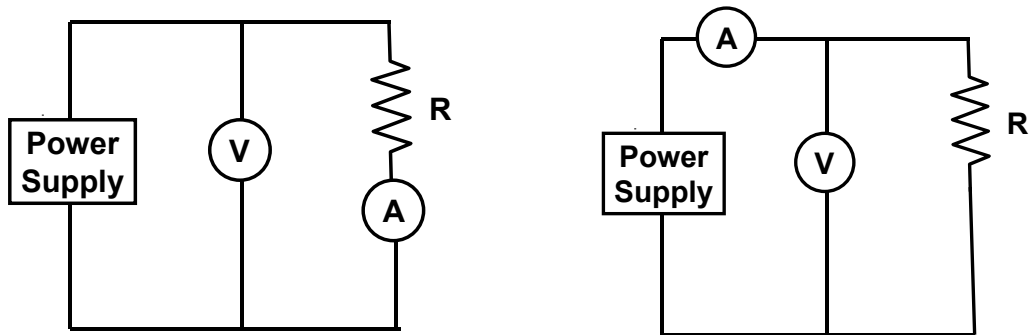

Figure 1
2) In the figure on the right the ammeter reads the sum of the currents through the resistance and through the voltmeter. Hence, in this case, (V/I) would equal R only if the voltmeter resistance were infinite. So, (V/I) will more nearly equal R , the greater the resistance of the voltmeter in comparison with R . For the types of instruments used in your laboratory, the method of Figure 1 gives the smaller error unless R is very small.
1. Diagram a circuit to measure the resistance of a fixed resistor R with a voltmeter and an ammeter by the method of Figure 1. Use a DC power supply for the voltage source. Include a switch and a variable resistance R' in series with the power supply. Including R' will enable you to vary the current through the fixed resistance R in a convenient way.